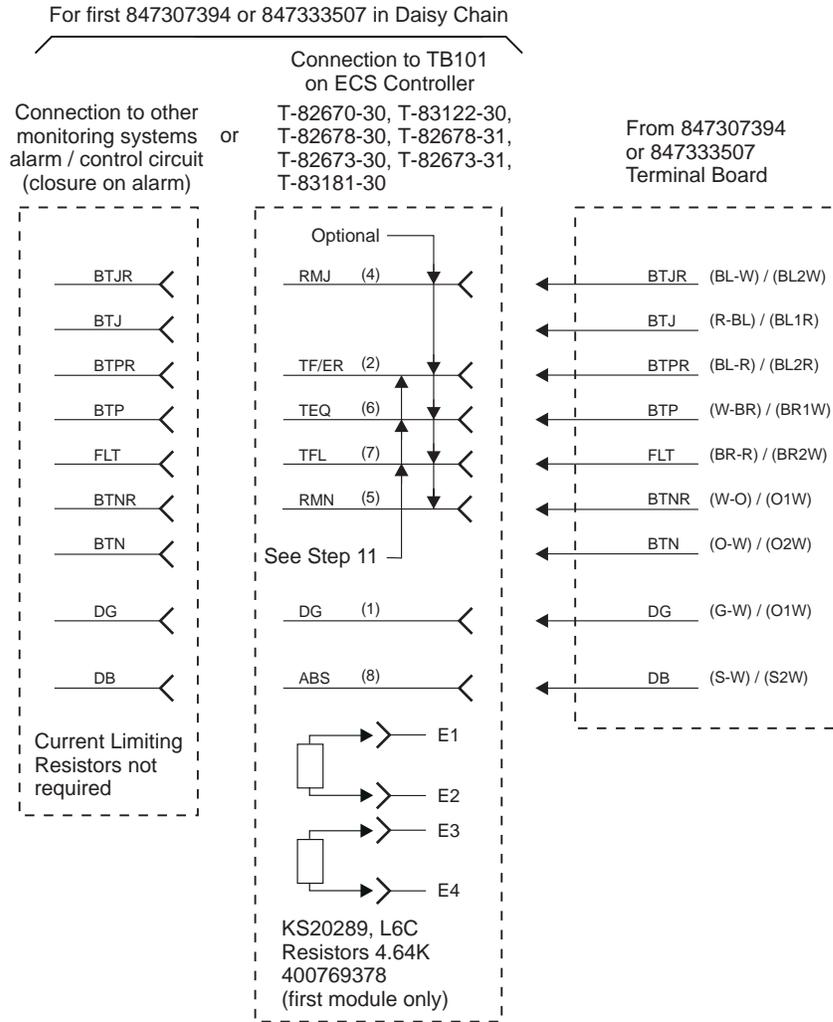

Figure 2-5: Controller Connections
8. Connect the first base (TB103 or J3) to the host control/monitoring system. For example, see Figure 2-5 for connections to a Lucent Technologies ECS controller.